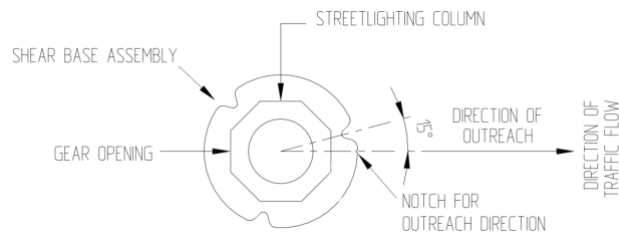

Figure 9: Alignment of the slip base flange to the traffic flow (image from NZTA TM-2007, modified)
1. Alignment of the slip base flange to the traffic flow should be as per Figure 9 below.
8. Generally, a negative slope of 1:6 should not be exceeded. The top of the ground stub flange should not protrude more than 75mm on horizontal ground conditions and on sloping ground conditions, not more than 100mm to highest part of the flange above the ground line, over a horizontal span of 1.5m – See Figures 9 and 10 above.